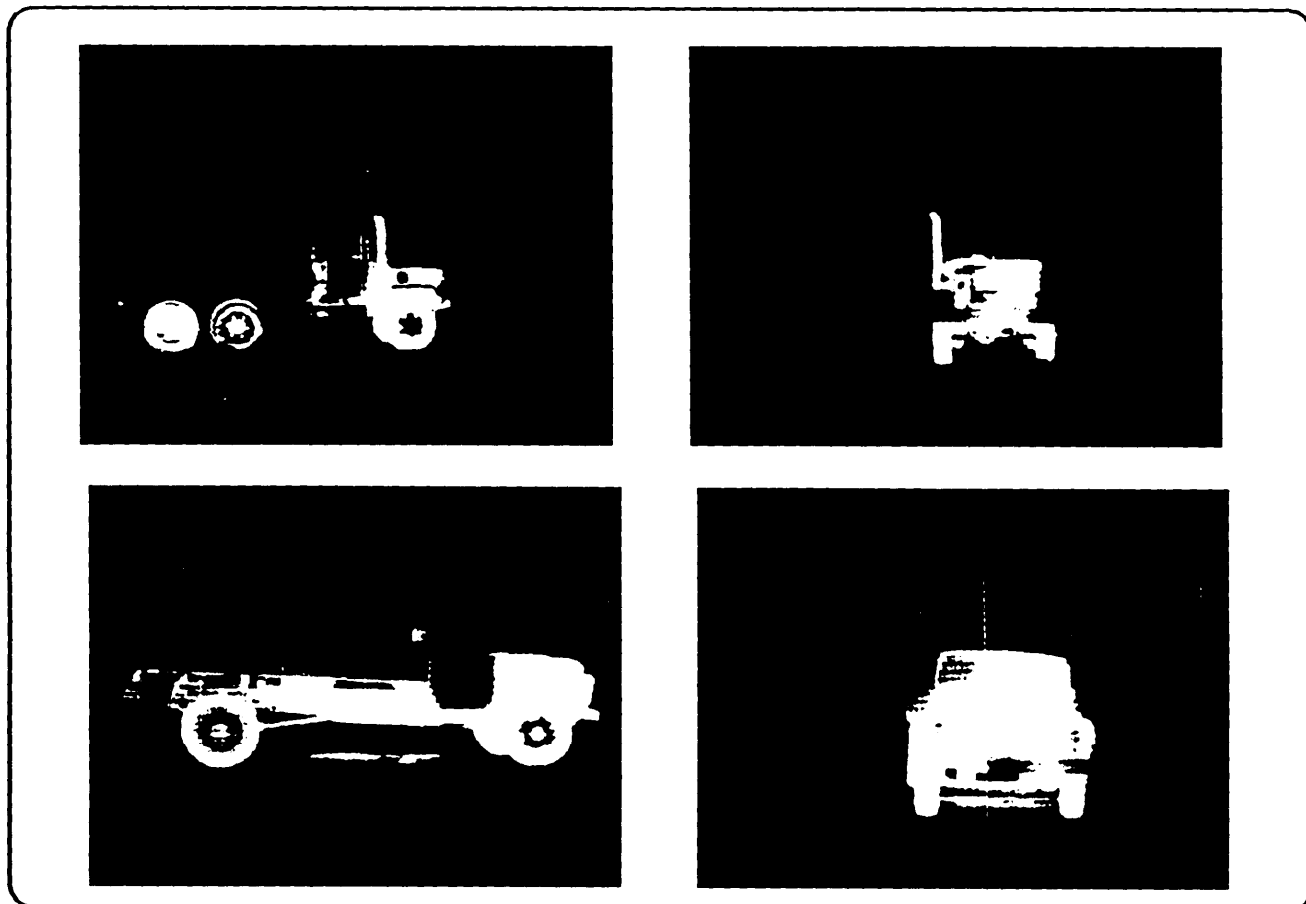

Figure A-4. Trucks.
d. Trucks. (All truck cues are combined) Figure A-4).